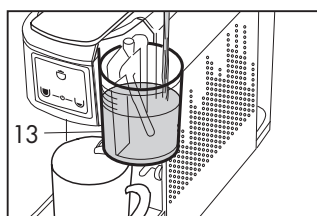

Fig. 22
- Remove the lid of the milk beaker (13) and fill the beaker with milk, taking care not to exceed the level indicated (we recommend a 90 cc dose of milk). **(Fig. 22)**
- Close the milk beaker (13) with the lid.
Fill the beaker (13) with the desired amount of milk, press and hold down the button (B)  to regulate the dispensing of hot milk, release the key when the desired amount is reached; in this way, the dose is stored for future use **(Fig. 22)**